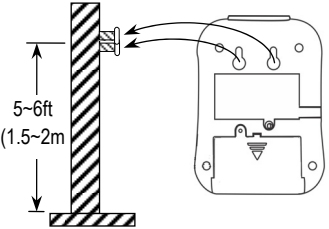

Fig. 1
2. For wall-mount, use the wall mounting template to drill holes and attach 2 screws into the wall at the desired location. For convenience, 5~6ft (1.5~2m) above the floor is recommended (Fig. 1).
8. For wall installation, place the unit over the heads of the screws installed in step 2 (Fig. 1) and slide down. Check that the unit is firmly attached and tighten or loosen the screws as needed.